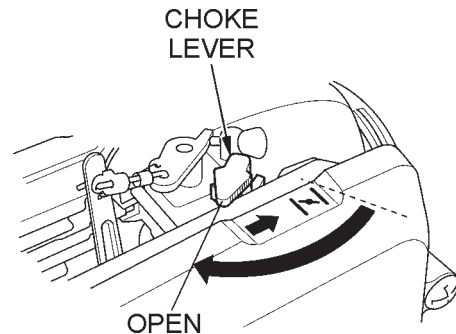

Figure 7. Choke Lever
3. Close the choke lever Figure 7 and move the throttle lever to the "Full Open" position. Turning the choke lever 90 degrees clockwise closes the choke. In cold weather, start the unit with choke fully closed. In warm weather or when the engine is warm, the unit can be started with choke halfway or completely open.
5. If engine fails to start, move the choke lever (Figure 7) to the half open position to avoid flooding.